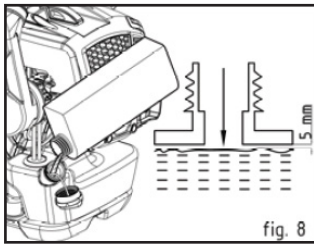

FIG 8.
- Do not overfill - Leave a minimum of 5mm of space between the top of the fuel-oil mixture and the inside edge of the tank to allow for expansion. (Fig. 8)